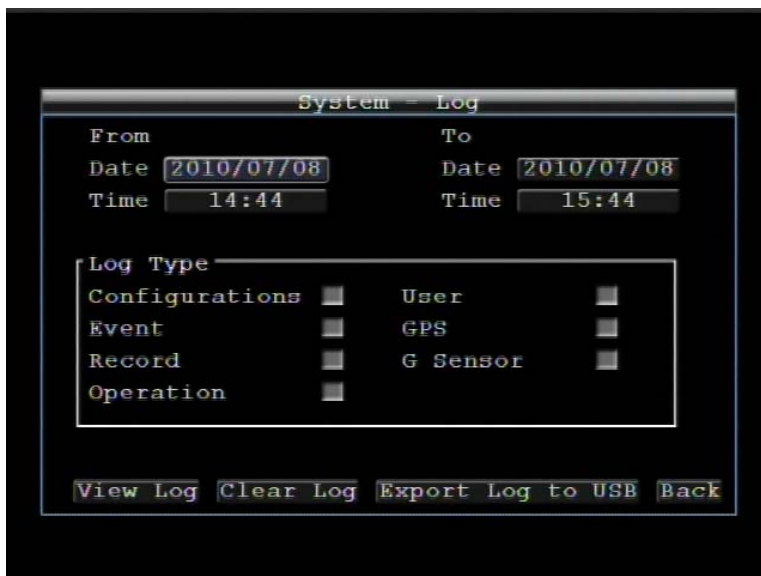

Figure 4-46 System-Log
**View Log:** Press **View Log** button to view the log. See Figure 4-46 for more detail.